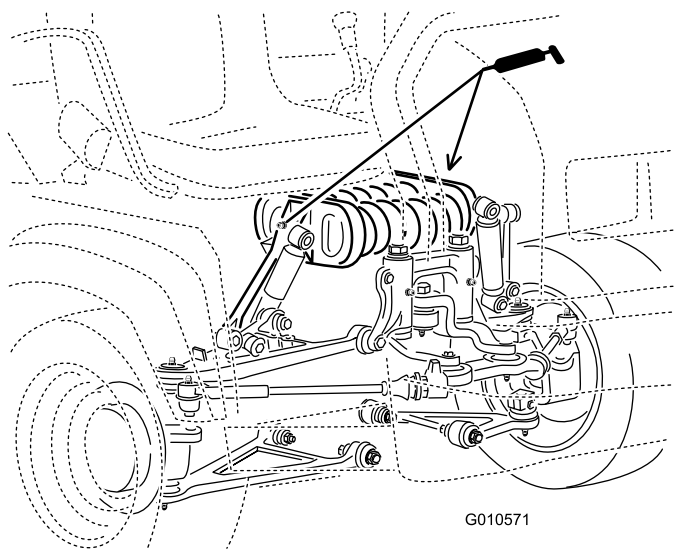

Figure 34
- Spring tower (2) (Figure 34)